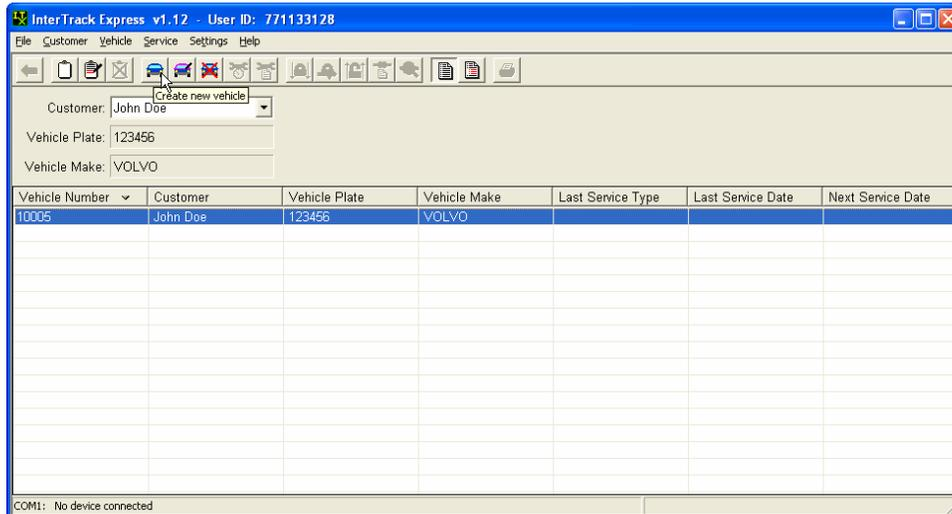

Figure 1.6A
a) To create a new vehicle, click on the blue vehicle icon as seen in figure 1.6A located at the top of the program screen.